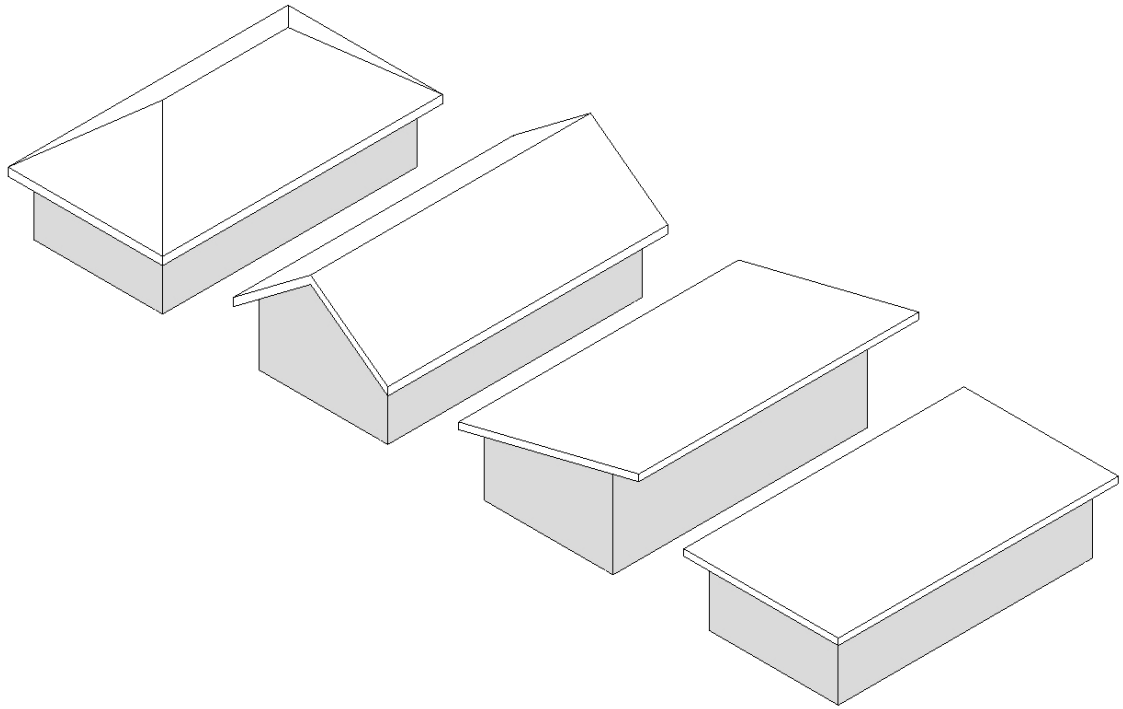

FIGURE 7-1.14 Default 3D View – flat roof
55. Also, take a look the **Default 3D View** (Figure 7-1.14).